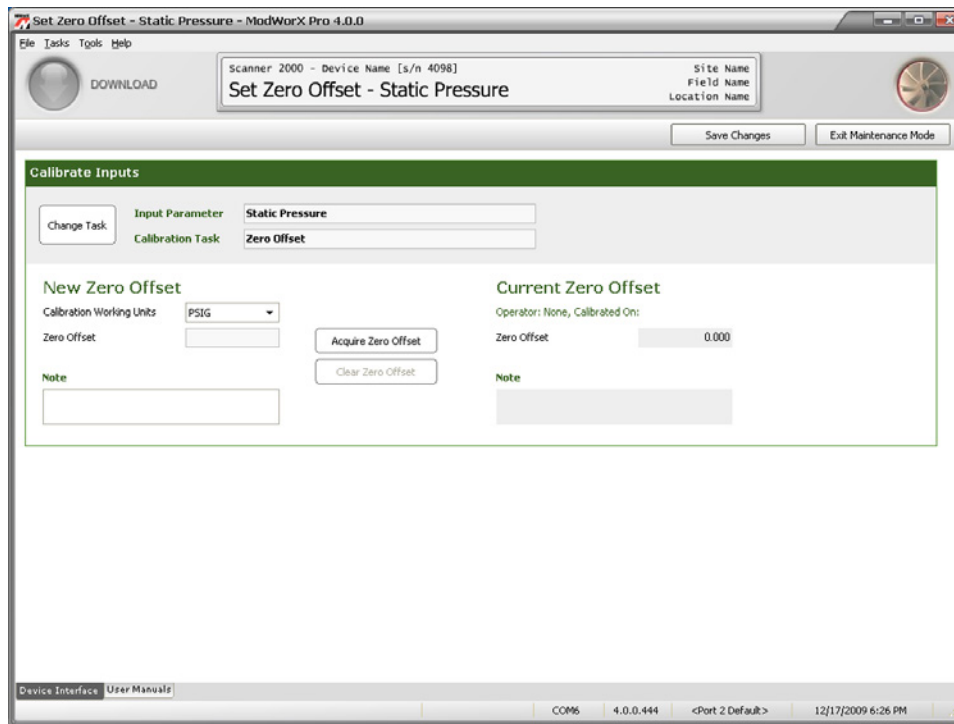

Figure 8.11
3. The Set Zero Offset – Static Pressure screen will appear, and the input parameter and calibration task selections you made will appear at the top of the screen (Figure 8.11, page 114).